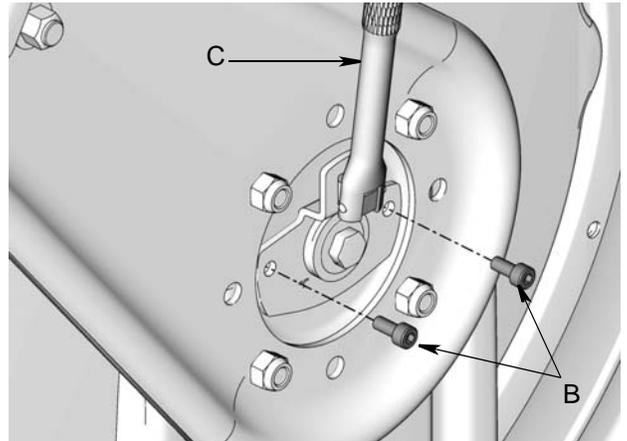

FIG. 13
3. Insert ratchet (C). Then remove screws (B) (FIG. 13).